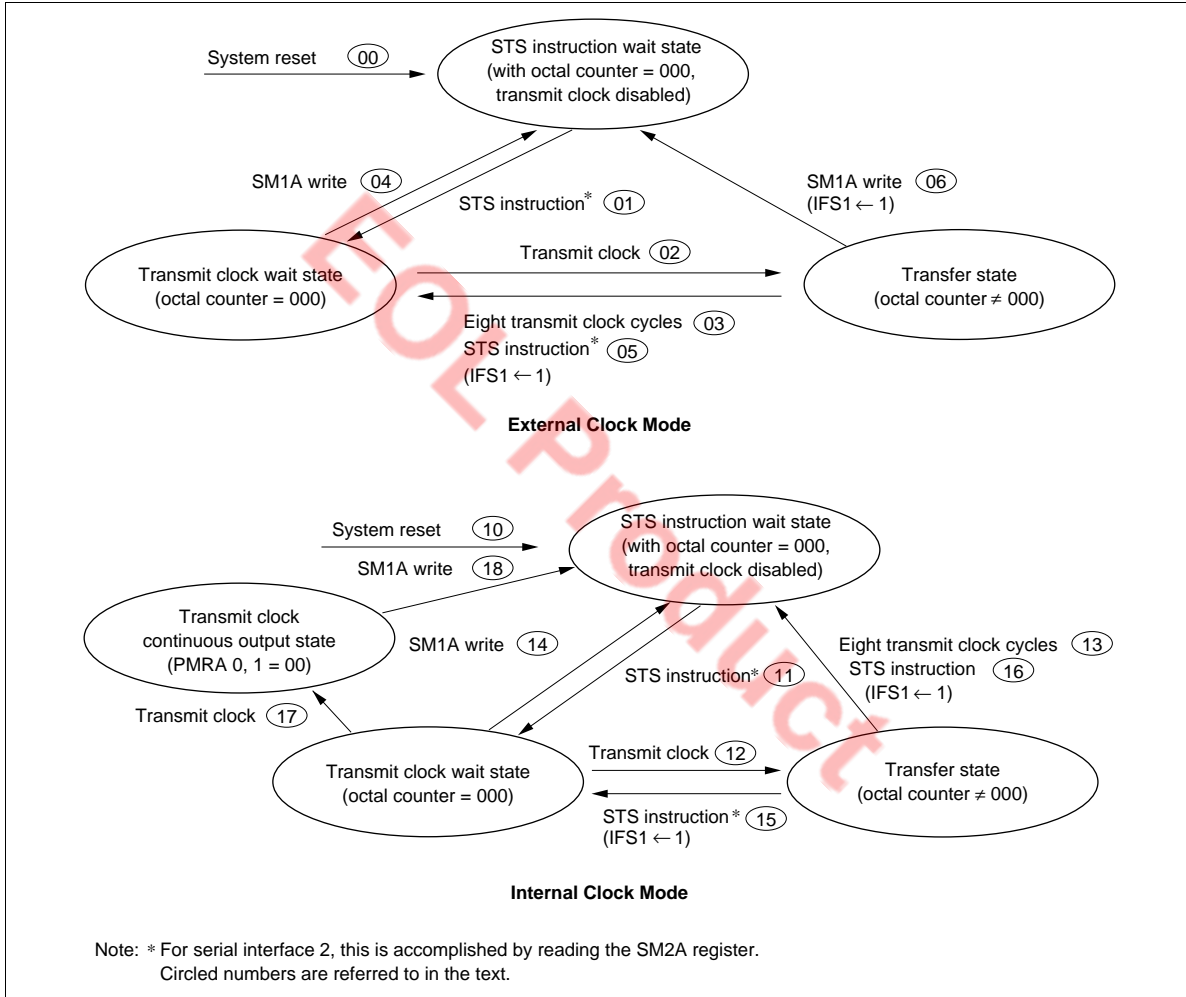

Figure 67 Serial Interface State Transition Diagram
Operating States: Serial interface 1 has the following operating states; transitions between them are shown in figure 67.
- STS wait state: The serial interface enters STS wait state by MCU reset (00, 10 in figure 67). In STS wait state, serial interface 1 is initialized and the transmit clock is ignored. If the STS instruction is then executed (01, 11), serial interface 1 enters transmit clock wait state.
- **Transmit clock wait state:** Transmit clock wait state is the period between the STS execution and the falling edge of the first transmit clock. In transmit clock wait state, input of the transmit clock (02, 12) increments the octal counter, shifts serial data register 1 (SR1L: \$006, SR1U: \$007), and puts the serial interface in transfer state. However, note that if continuous clock output mode is selected in internal clock mode, the serial interface does not enter transfer state but enters continuous clock output state (17).